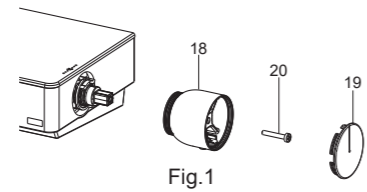

Fig.1
拆卸前确保温控把手(18)上的按钮垂直朝下。取下把手上盖(19)，用螺丝刀取出螺钉(20)，卸下温控把手(Fig.1)。
Before your action, ensure the button on the temperature handle(18) is downward vertically. Remove the plug(19). Remove the screw(20) with a screwdriver. Take out the temperature handle(Fig.1).